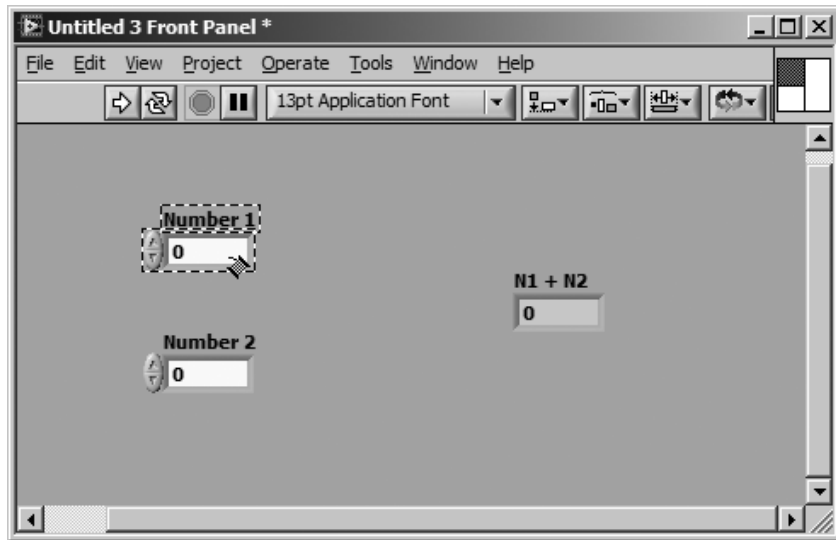

Figure 5.21
2. Click on the control or indicator you want that terminal to represent. A moving dotted line frames the control or indicator (see Figure 5.21).